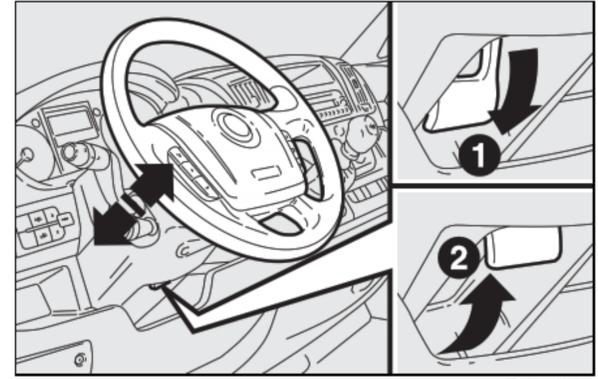

fig. 32
- release the lever **A**-fig. 32 pulling it towards the steering wheel (position 2).